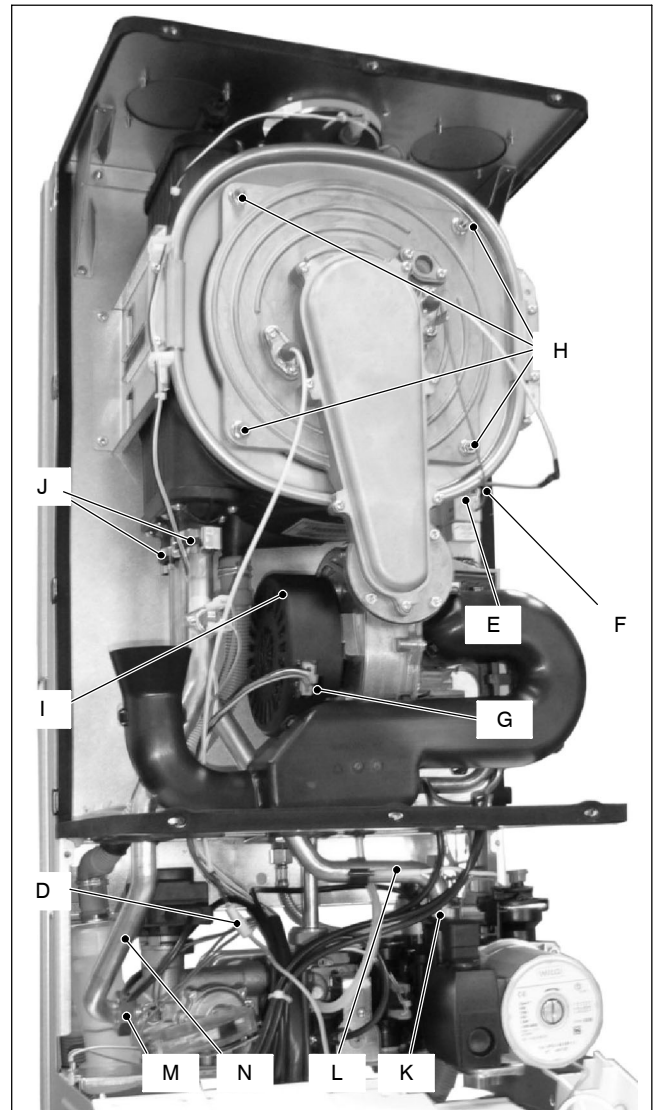

Fig. 5.2
- 4 Disconnect the fan connector *G* by pressing the plastic hook placed on the side of the connector (Fig. 5.2).
- 5 Unscrew the nuts *H* (Fig. 5.2).
- 8 Remove the clips *J* (Fig. 5.2).
- 9 Loosen the connection *K* and slightly move the pipe *L* upwards, turn it towards left (Fig. 5.2) and then move the pipe downwards freeing it from the Condensing heat exchanger.
- 10 Loosen the connection *M* and slightly move the pipe *N* upwards, turn it towards left (Fig. 5.2) and then move the pipe downwards freeing it from the Condensing heat exchanger.
Ensure to tight the nuts *H* – Fig. 5.2 firmly